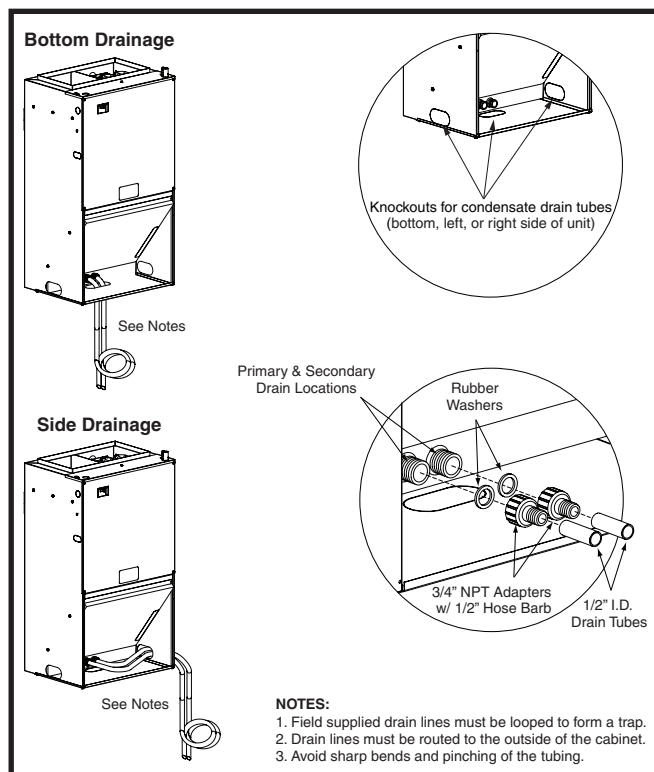

Figure 2. Condensate Drainage
The drain pan that is supplied with this air handler contains a primary and secondary drain fitting. The condensate is drained from the unit through two 3/4" male pipe fittings located on the front side of the unit as shown in Figure 2 \(page 8\).
- Drain pan **MUST** be drained with field supplied tubing and looped to form a trap. Failure to install a trap could result in condensation overflowing the drain pan, resulting in substantial water damage to surrounding area. Both drains must be trapped separately. See Figure 2.